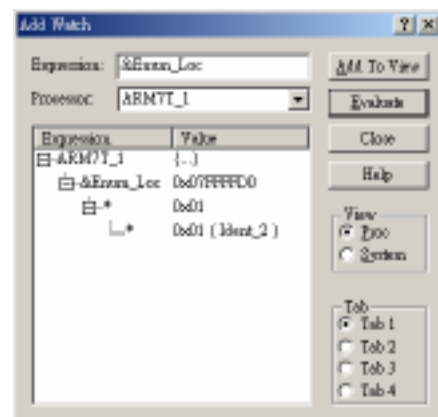

Figure 14. Watch dialog.
6.1 Enter the first expression in the Expression field (as shown in Figure 14) by typing: